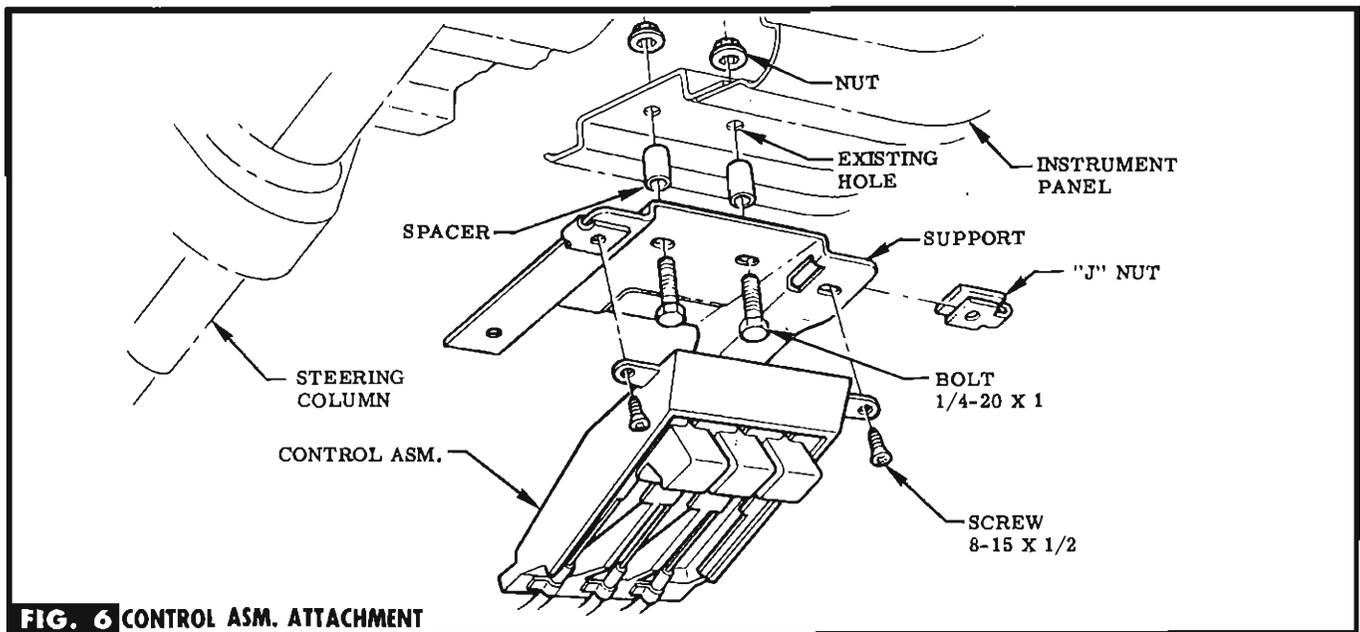

FIG. 6 CONTROL ASM. ATTACHMENT
STEP 34 ATTACH SUPPORT TO INSTRUMENT PANEL WITH SPACERS & ATTACHING PARTS PROVIDED (IN BAG A). SEE FIG. 6.
STEP 35 ATTACH CONTROL ASM. TO SUPPORT WITH ATTACHING PARTS PROVIDED (IN BAG A). SEE FIG. 6.
STEP 8a ROUTE LONG ORANGE WIRE UNDER INSTRUMENT PANEL, THRU EXISTING CLIP ON INSTRUMENT CLUSTER, & OVER INSTRUMENT PANEL COMPARTMENT TO R. H. PILLAR. SEE FIG. 6.
STEP 12a LOOP & TAPE ANY SURPLUS OF WIRE TO PREVENT RATTLING. SEE FIG. 6.